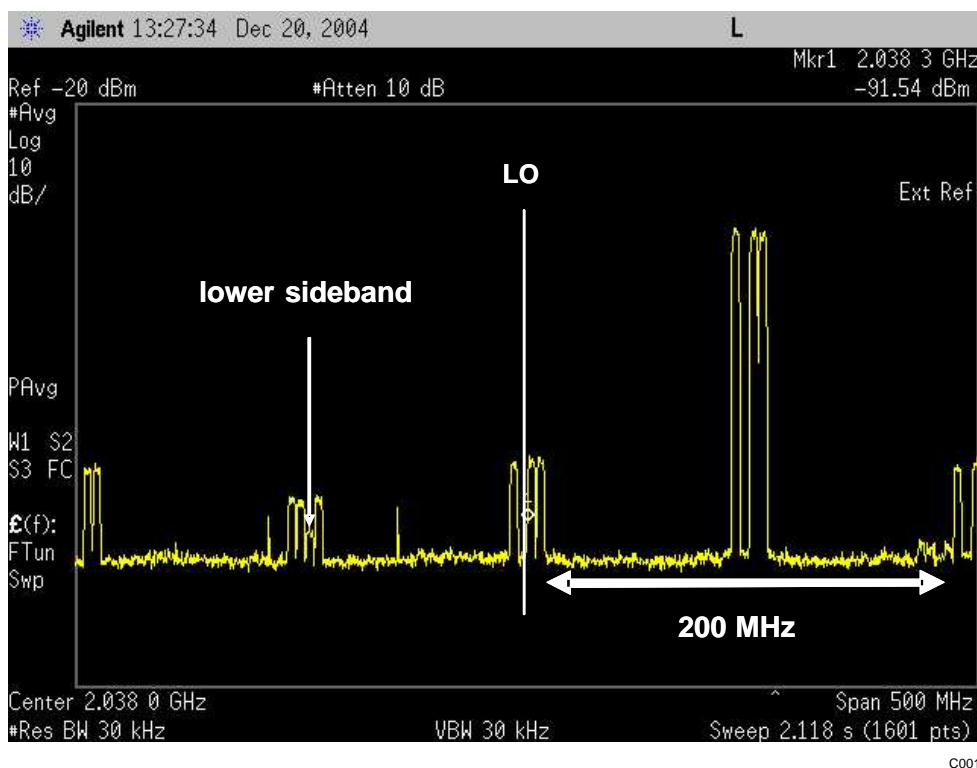

Figure 76. Analog Quadrature Modulator Output for a Complex IF System
This is shown in Figure 76, which is the RF analog quadrature modulator (AQM) output of an asymmetric three carrier WCDMA signal with the properties in Table 17. The wanted signal is offset from the LO frequency by the DAC5687 complex IF, in this case 122.88 MHz. The nearest spurious signals are ~ 100 MHz away from the wanted signal (due to non-harmonic clock-related spurious signals generated by the  $f_{DAC}/4$  digital clock), providing 200 MHz of spurious free bandwidth. The AQM phase and gain imbalance produce a lower sideband product, which does not affect the quality of the wanted signal. Unlike the real IF architecture, the non-harmonic clock-related spurious signals generated by the  $f_{DAC}/2$  digital clock fall  $\pm 245.76$ -MHz offset from the wanted rather than falling inband.
**Table 17. Signal and System Properties for Complex IF System Example in Figure 76**